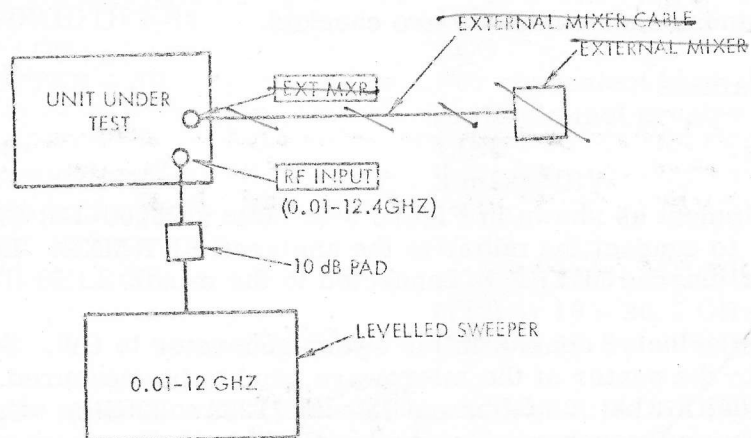

Figure 6-4. Frequency Response
- Connect sweepers (5, table 6-2) and power meter as shown in figure 6-4. Use external 10 dB pad and set signal source level to obtain -0 to -10 dBm level incident to RF INPUT connector.